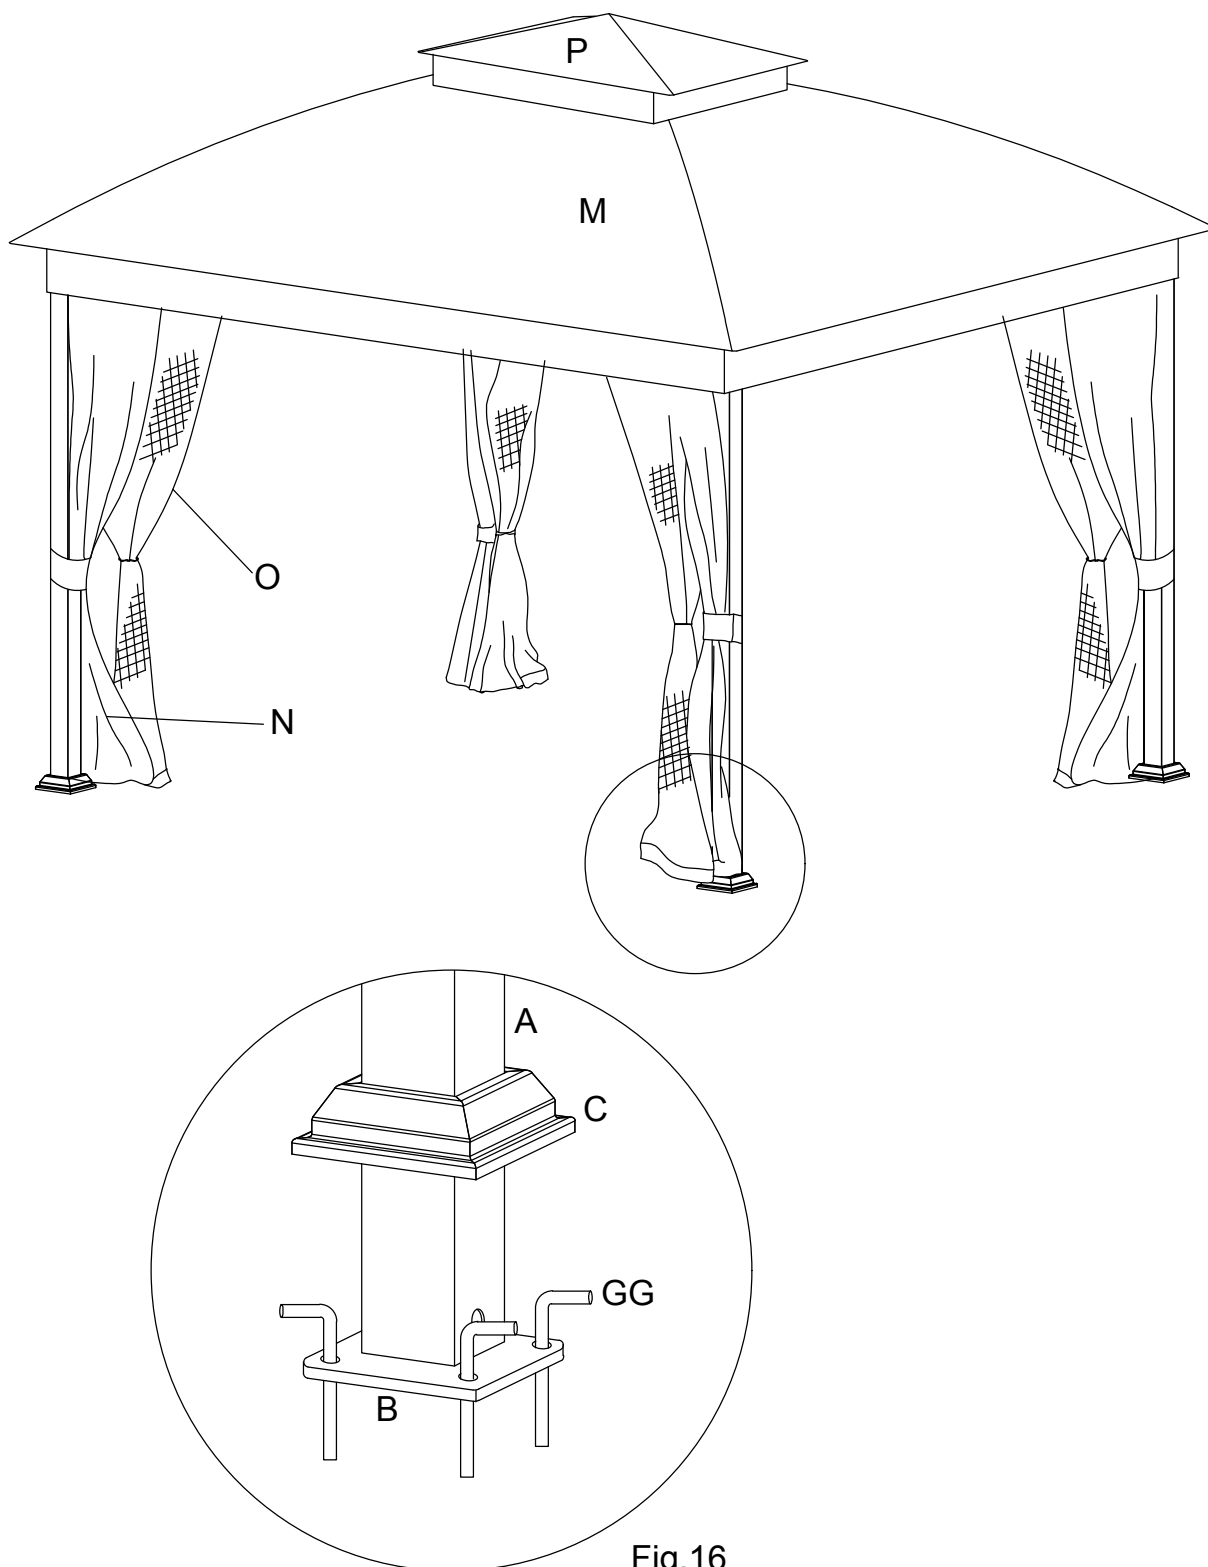

Fig.16
9.Insert the Stake (GG) into the ground through the Base Plate (B), See Fig.16.